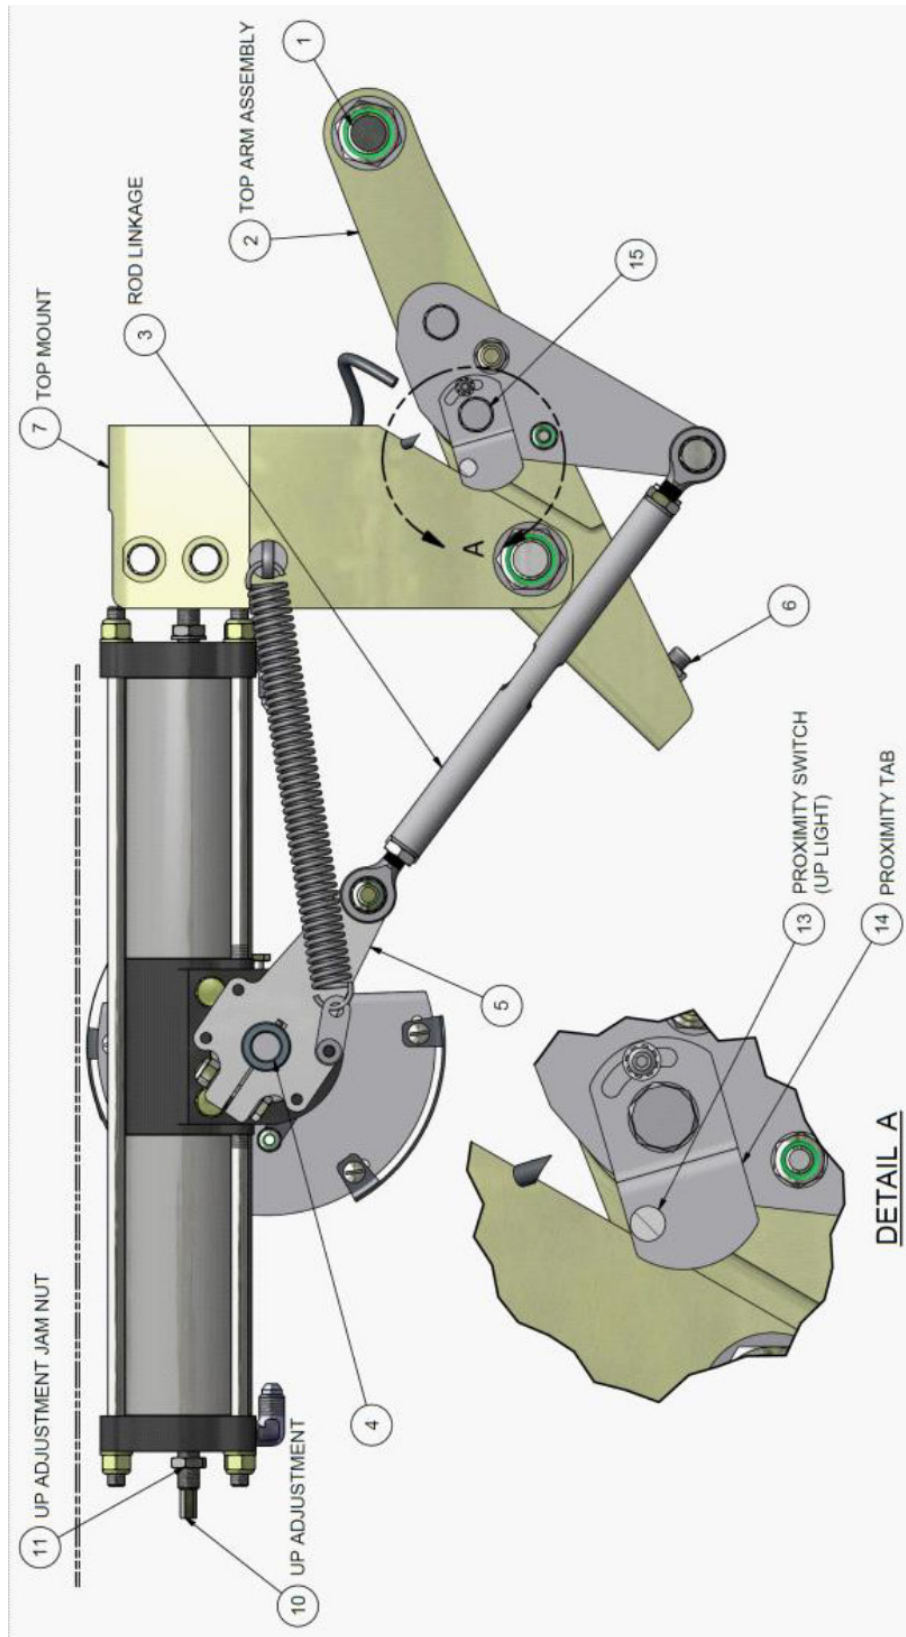

FIGURE 4-5 MAIN GEAR ADJ. UP
15. Repeat steps 10 - 14 for setting the UP position setscrew. (See figure 4-5)
10. Rotate the sensor plate so that the sensor is near the edge of the plate with the gear in the up position. Reference Figure 4-5 inset.